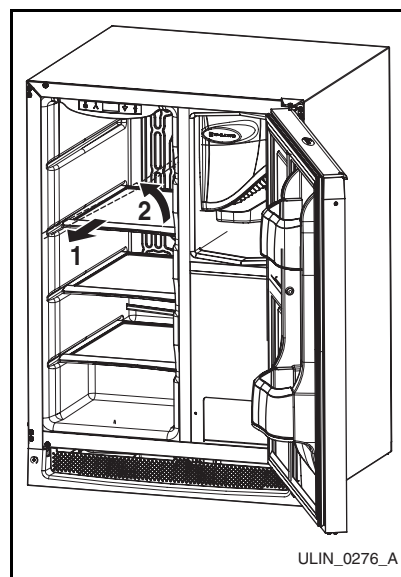

Figure 29
1. Pull shelf out about 6" (**Figure 29, 1**) until back of shelf clears the "hump" on the right-hand side.
3. Remove shelf from unit by pulling out (**Figure 29, 2**).